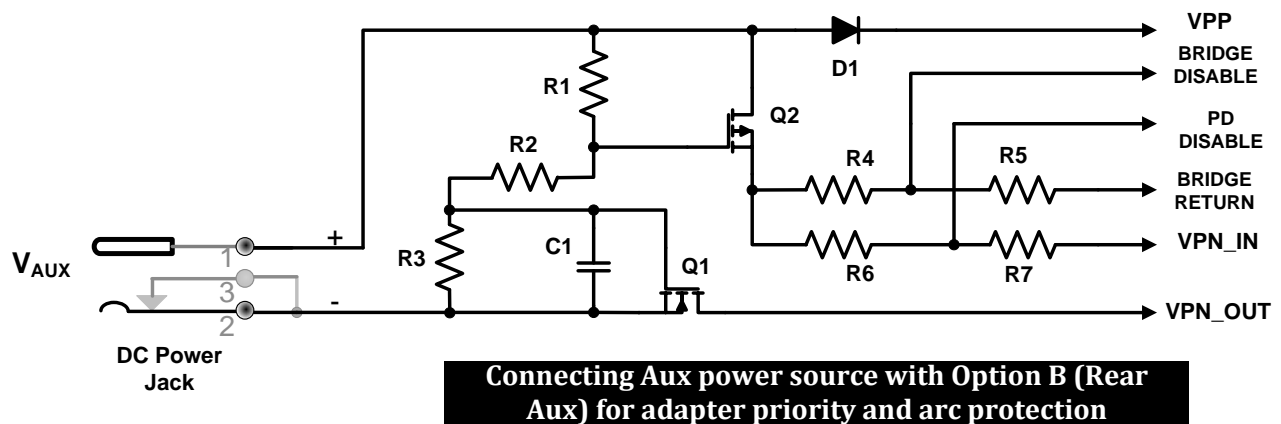

Figure 5: Connecting Auxiliary power source with arc protection and adapter priority
- 2) Although wall adapter priority is naturally possible if $V_{AUX} > V_{PSE}$, with Rear Aux method we can easily ensure unconditional adapter priority with a dedicated WA_EN pin that turns OFF the pass-FET of the Front End. As with Front Aux, in theory we can also assure “brute-force” adapter priority by using a relay as shown in Figure 5. Unfortunately, all the limitations of the mechanical switch and relay that we discussed in the Front Aux option, are applicable here too. For one, we are likely going to lose seamlessness under hot-swap conditions.
- 3) Inrush current protection for adapter line is not inherently available with Rear Aux method since adapter is connected after a PD chip. The adapter must protect itself from inrush currents. In addition to this, hot plugging adapter can cause contact arcing in the DC jack. The circuit in Fig.5 provides “slow start” for adapter line that limits its surge current and protects contacts from arcing.